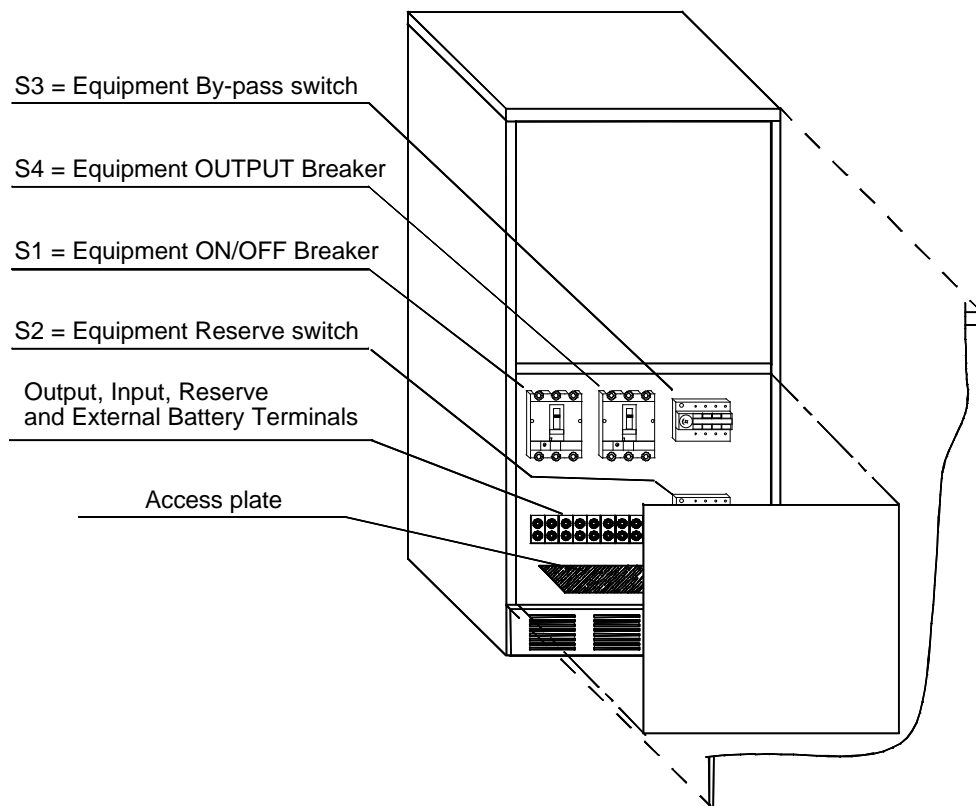

Figure 20 - 36 – 24/30/36kVA: Connections
- a) Remove front panel see Figure 20.
2. Turn on the Utility supply Input, Reserve Input (if fitted) and UPS Output switches located behind the front panel, see figure 14 for 24kVA, figure 17 for 36kVA or figure 20 for 50/80kVA.
6. Press the Inverter On push button (I).